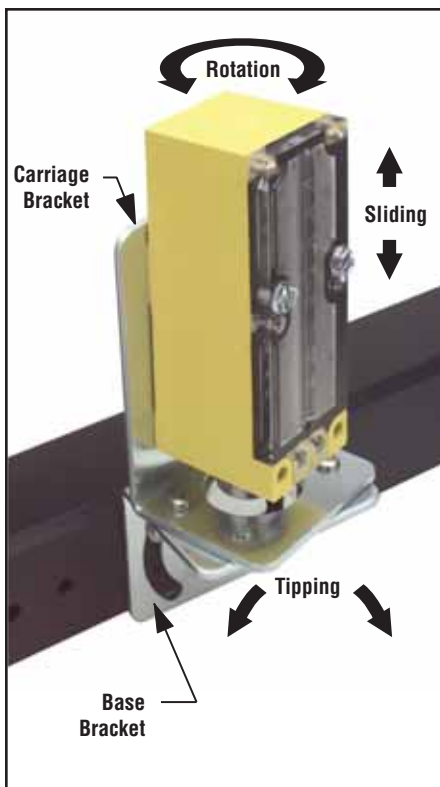

Figure 2. Achieving perfect optical alignment with the LS10; bracket SMBLS shown.
Beginning with perfect mechanical alignment, adjust optical alignment as described in steps #1 through #5. The procedure assumes use of the SMBLS mounting bracket shown in Figure 2. Only the position of the emitter will be adjusted.
- 3) Rotate the carriage bracket (to which the emitter is attached) slightly in both directions, as shown in Figure 2. Find the extremes of rotation between which the receiver’s red Alignment indicator LED remains OFF. Secure the emitter midway between the extremes by tightening the two bolts that lock the two parts of the bracket together.